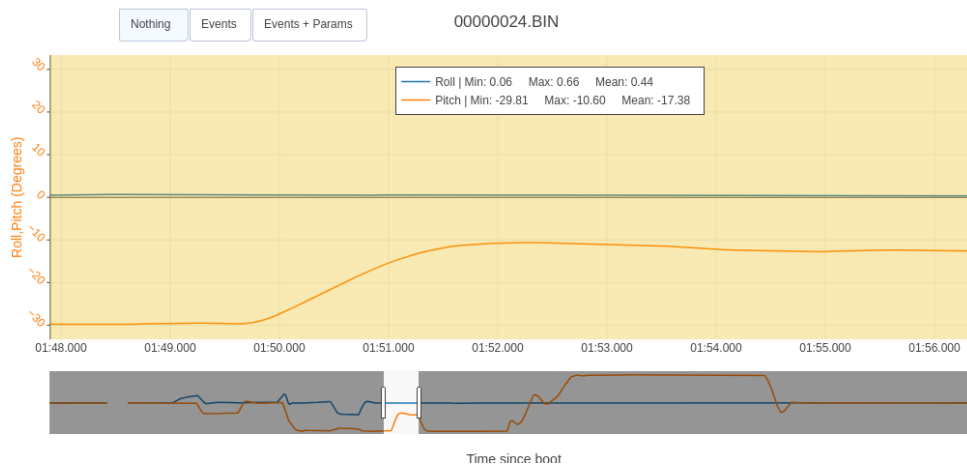

Figure 5: Waypoint 3 to Waypoint 4 (Pitch, Roll vs Time)
- It can be observed from fig. 5 that the mean roll angle is approx. 0° roll towards left and mean pitch angle is about -17.38° (pitching down). During this part of the mission there is a tailwind from west to east. And hence to counter the tailwind the drone reduced its pitch angle.